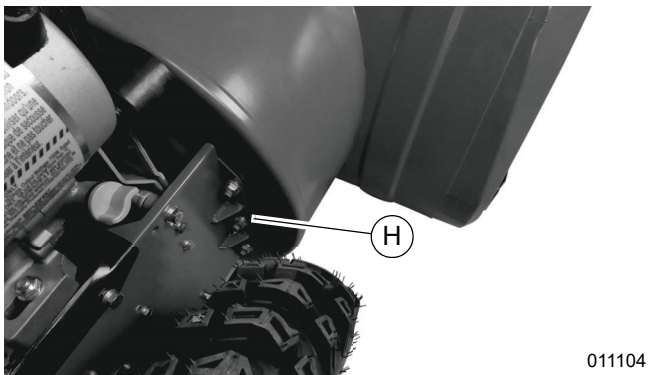

Figure 4-9. Removing Right Side Transmission Box Locknuts
5. See Figure 4-9. Remove the three locknuts (H) from the right side of the transmission box using a 13mm wrench.